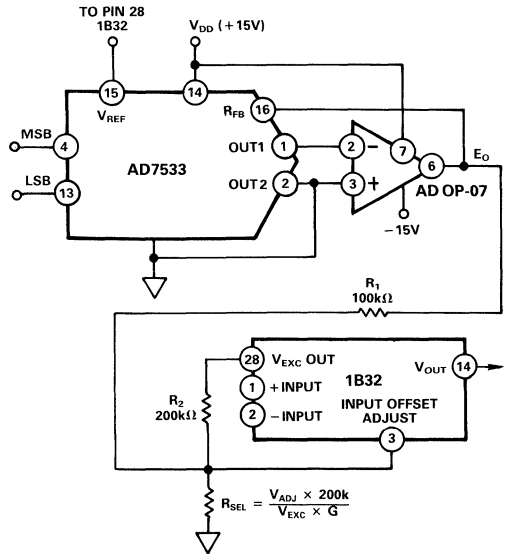

Figure 18. Output Offset Adjust Using a 10-Bit DAC
**Digital Output Offset Adjust:** A 10-bit multiplying DAC such as the AD7533 can be used to control the output offset of the 1B32 as shown in Figure 18. The DAC is configured for unipolar operation with an AD OP-07 generating a voltage output. This 0-10V output is attenuated by  $R_1$  and  $R_{SEL}$  and superposed on another fixed voltage derived from  $V_{EXC}$ . Thus the voltage at Pin 3 (INPUT OFFSET ADJUST) is insensitive to the tempco of the excitation voltage since it is also used as the reference of the DAC. For best performance  $R_1$  and  $R_2$  should track to ±5ppm/°C. As an example, a ±5V output adjustment can be obtained by using  $R_{SEL} = 200\Omega$  for  $G = 500$  and  $V_{EXC} = 10V$ .